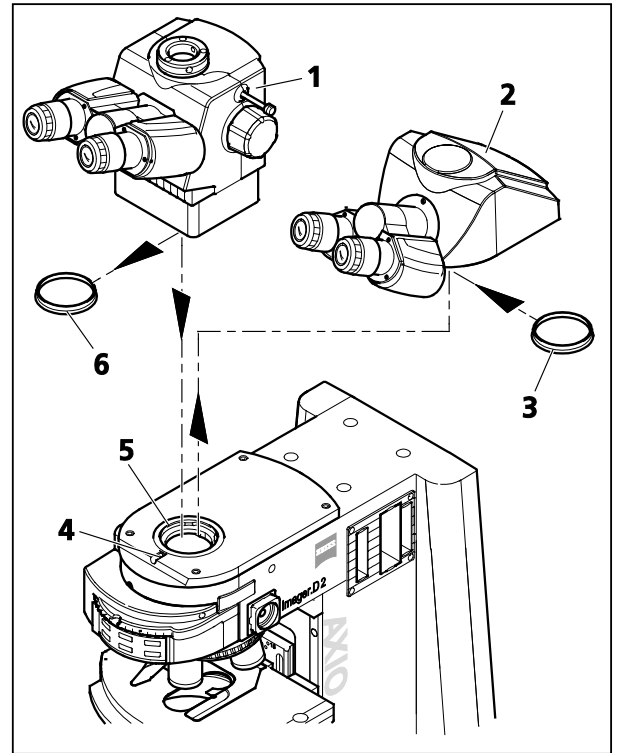

Fig. 10 Changing the binocular tube
- Use an AF 3 ball-headed screwdriver to undo clamping screw (Fig. 10/4) and remove the tube (Fig. 10/2) upwards.
- Place dust cap (Fig. 10/3) for tube lens protection on the dovetail of the binocular tube.
- Remove dust cap (Fig. 10/6) from the desired tube.
- Insert the tube (Fig. 10/1) with the dovetail into the stand opening (Fig. 10/5) and align it.
- Tighten clamping screw (Fig. 10/4).